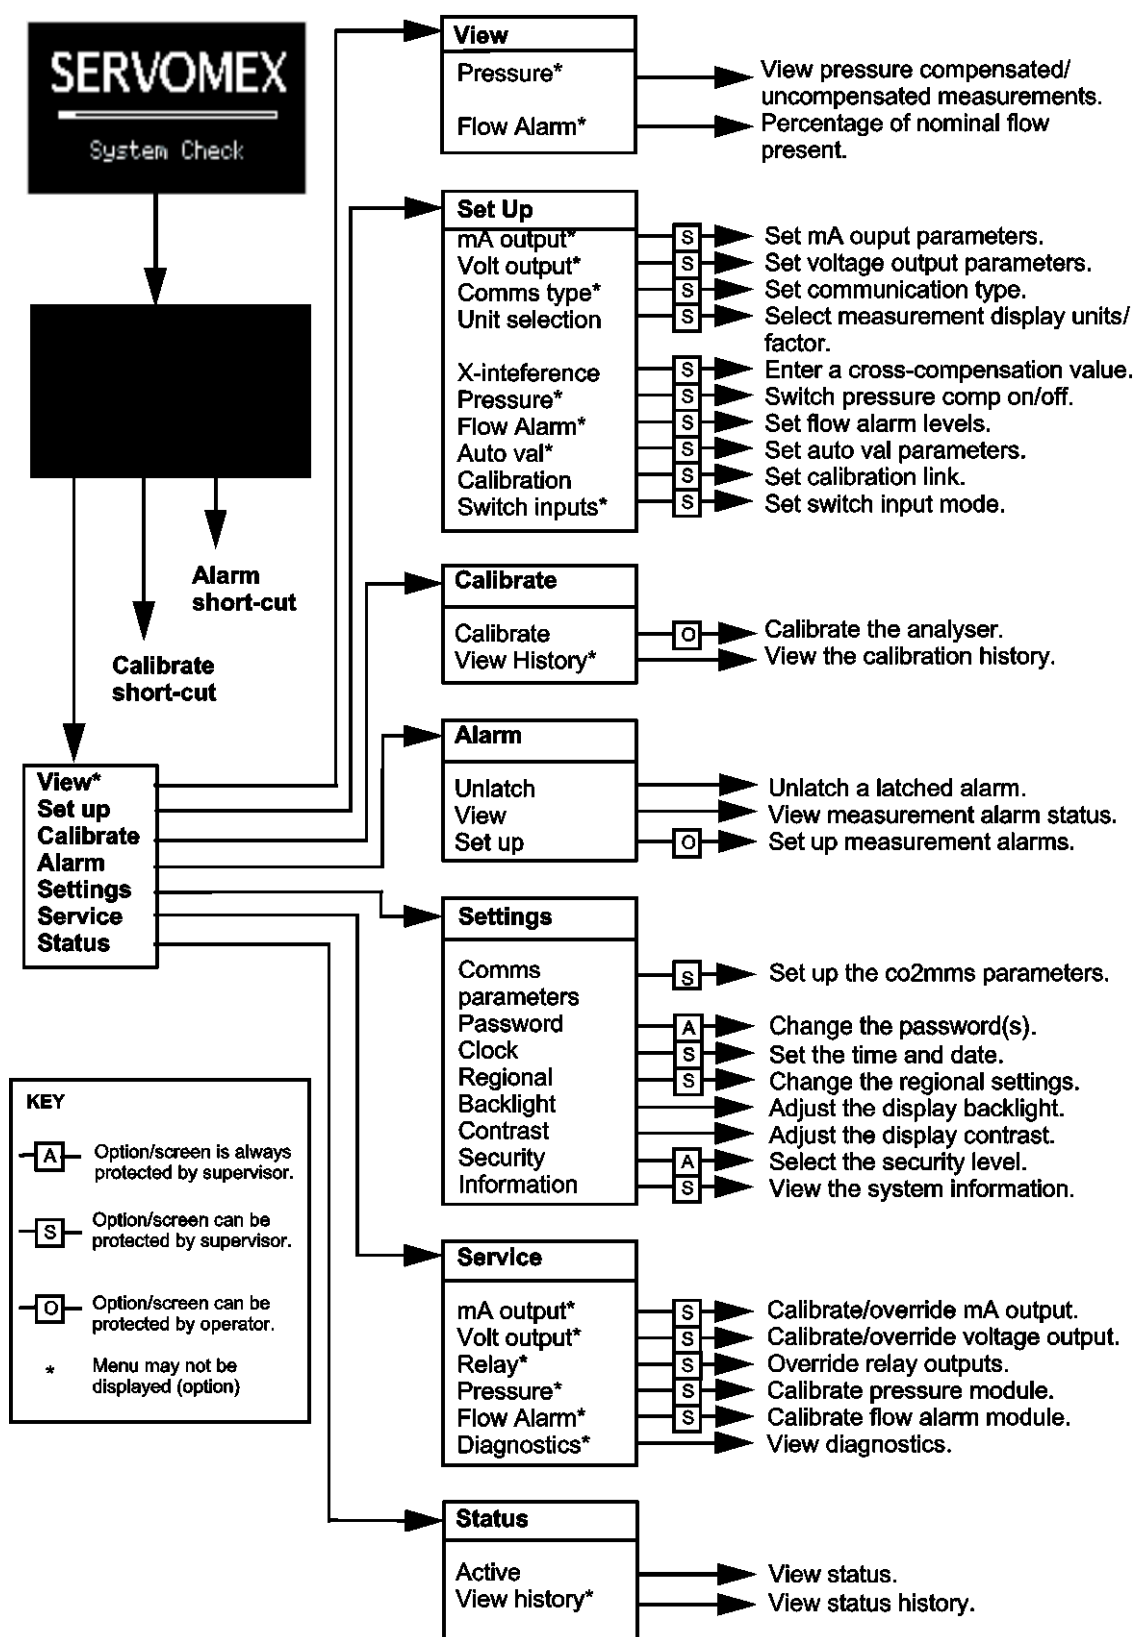

Figure 4 – The analyser menu structure
- + If no soft key is pressed for 10 minutes, the measurement screen will be automatically displayed. (You will also then have to enter the password again to access any password-protected screens: refer to Figure 4 and to Section 4.6.)
The menu structure of the analyser is shown in Figure 4, which indicates that some of the options/screens are password protected.